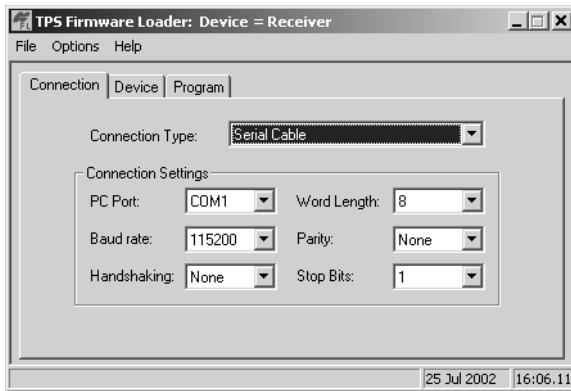

Figure 4-14. FLoader Main Screen
4. Activate FLoader (Figure 4-14 on page 4-23).
5. On the *Connection* tab, select the COM port on your computer that connects with your receiver and select its speed (usually 115200) (Figure 4-14 on page 4-23).